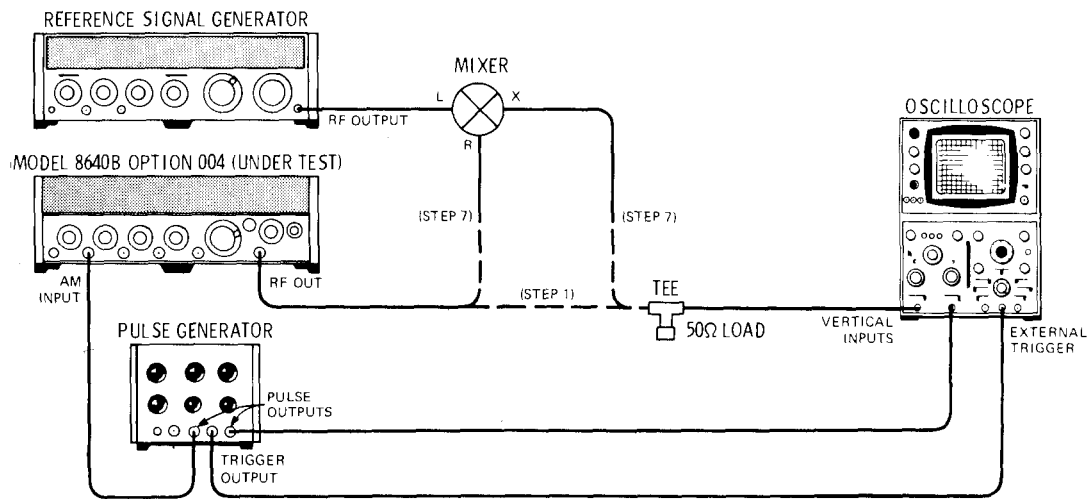

Figure 4-26, Pulse Modulation Test Setup
1. Connect equipment as shown in Figure 4-26, with oscilloscope connected directly to test generator's RF OUT, after setting test Signal Generator's controls as follows: